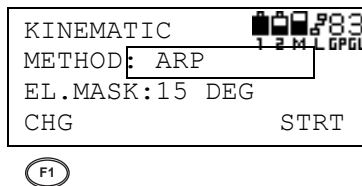

Figure 3-49. Enter Measuring Method
6. Use the **up/down cursor key** to scroll down to the antenna height measuring method. Press **F1 (CHG)** and select either antenna reference point (ARP), or slant using the left/right cursor keys (Figure 3-49).